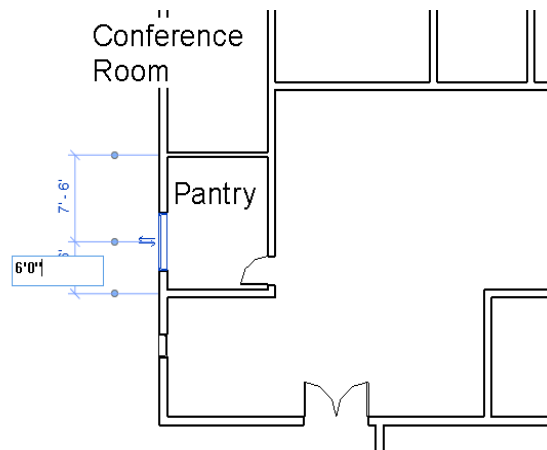
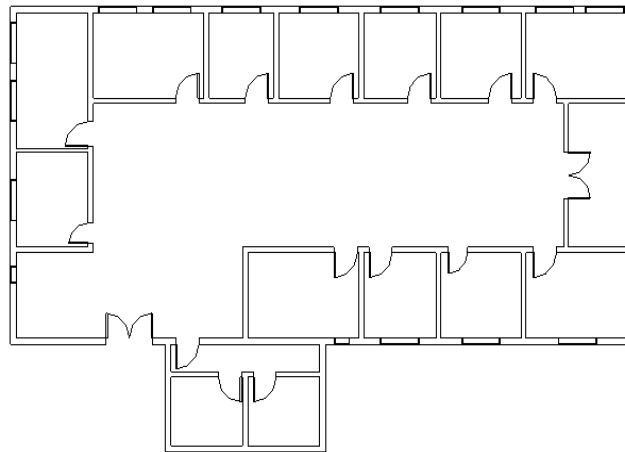

Figure 3-85 Specifying the location of the bedroom window
Figure 3-86 Complete project plan with doors and windows
13. Now, select the added pantry window; the window gets highlighted in blue color and its controls are displayed. Click on the temporary dimension displayed at the bottom and enter **6'0"** for Imperial or **1800 mm** for Metric to specify the location of the pantry window, as shown in Figure 3-85; the window is moved to the desired location. Similarly, add the windows of the same type to the walls of the other rooms and specify their respective locations based on the given sketch plan, refer to Figures 3-86.
This completes the tutorial of creating doors and windows for the *Building Envelope II* project. The Level 1 plan should look similar to the plan shown in Figure 3-86.
You can place doors and windows at nearby position, refer to Figure 3-86.